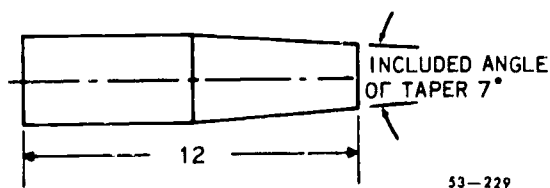

Figure 5-24. Calculating tailstock offset when the included angle is given.
*Example:* To cut a taper with an included angle of  $7^\circ$  on a piece of work 12 inches long, as shown in figure 5-24, the calculations would be as follows: